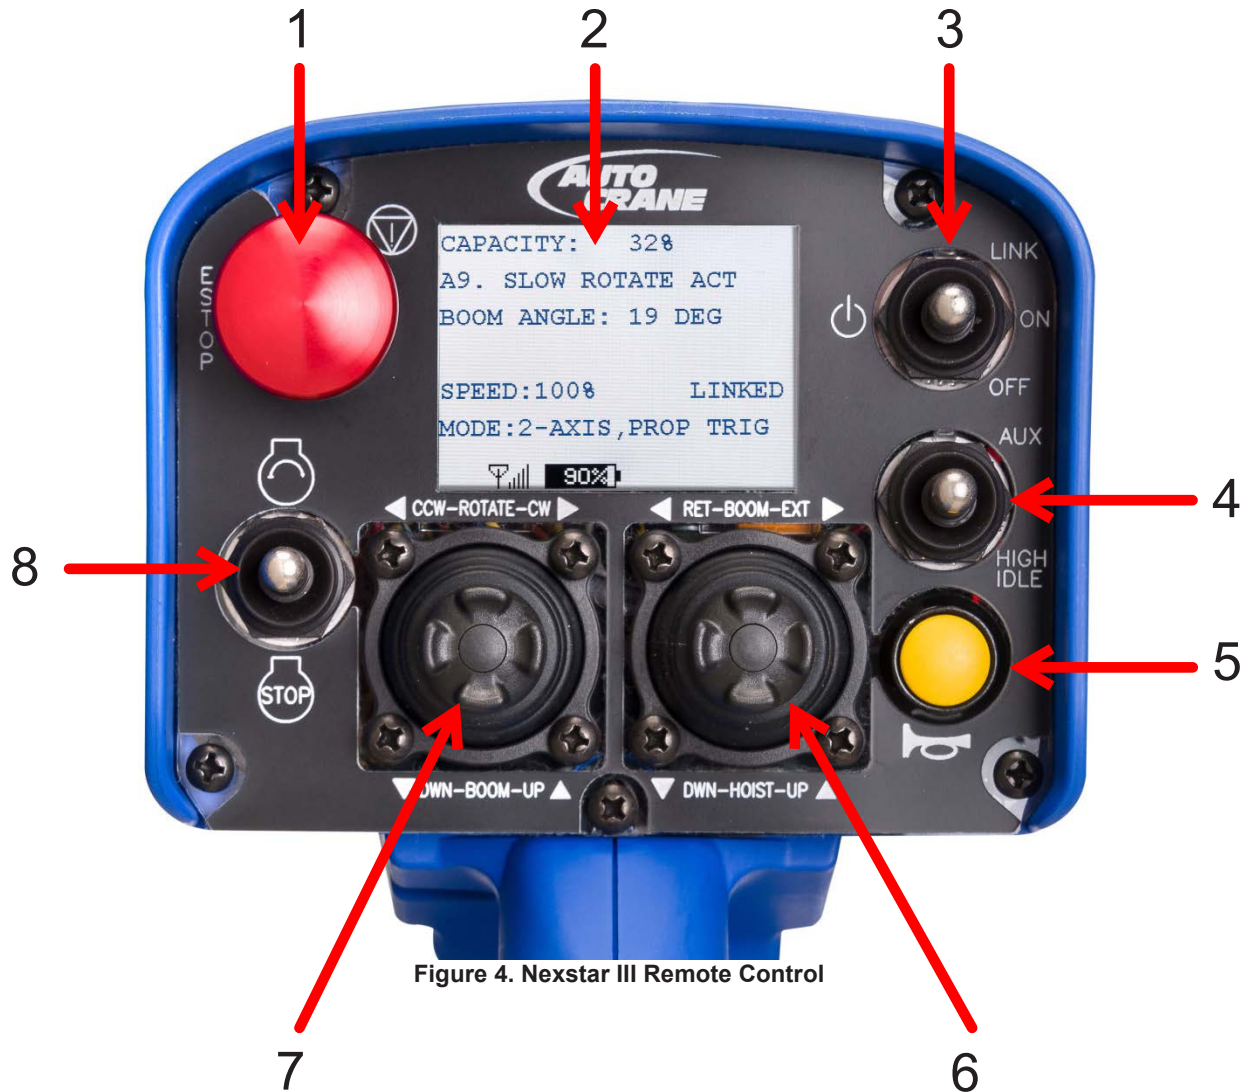

Figure 4. Nexstar III Remote Control
2. **Display Screen** - LCD screen that displays many crane operating parameters. See Figure 4.